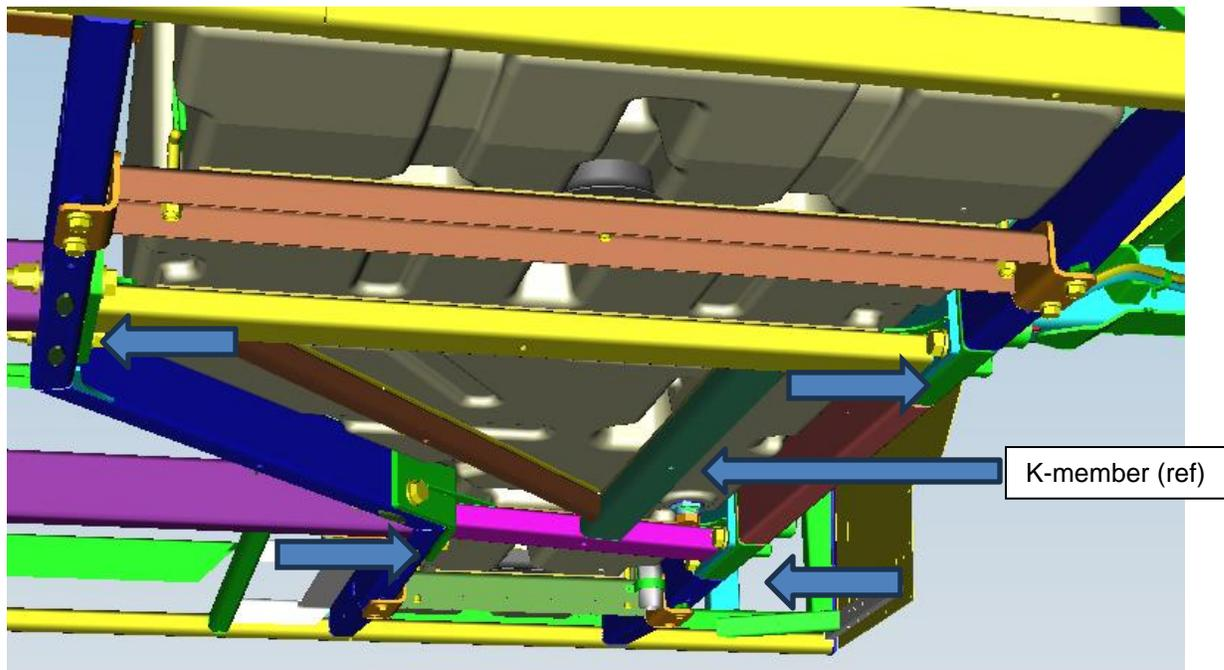

FIGURE 4: AREAS TO CHECK TO DE-BOND TO ALLOW REMOVAL OF K-MEMBER
- Loosen all the existing K-Member mounting hardware. Check to determine if sealant was used to seal the fuel tank to the K-Member. If the K-Member is sealed to the fuel tank, carefully cut the sealing bead, and remove it. Use a pry bar to loosen the existing K-Member on the coach. Reference arrows below showing area, see **Figure 4**.